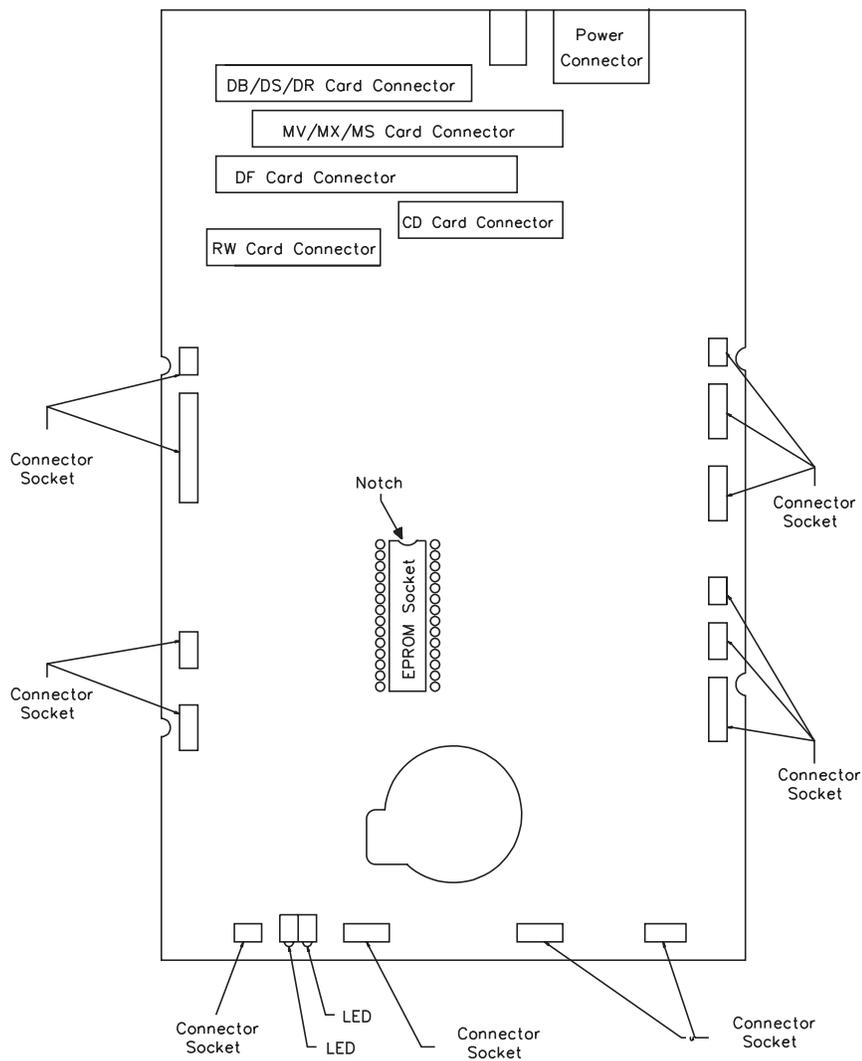

Figure 11-2
1. Place the SV card on the work surface with the component side up and the front edge of the card facing you. The front edge of the SV card is identified by the two LEDs and the circular cutout in the card. Figure 11-2 shows the location of the major components on the card and the location of the EPROM socket.
(same as Figure 11-2)